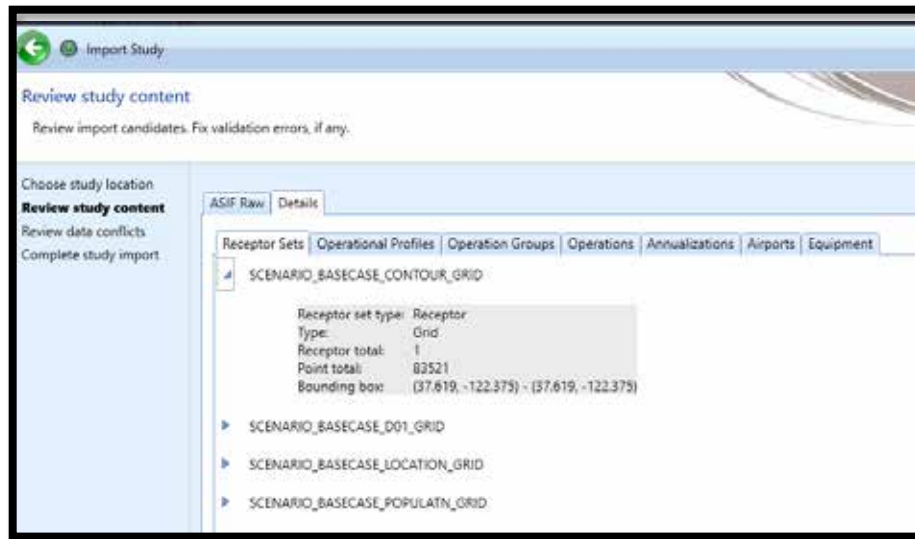

Figure 62. Review study content – Details tab
- The *Details* tab displays a detailed view of the study content, organized by categories (Figure 62).